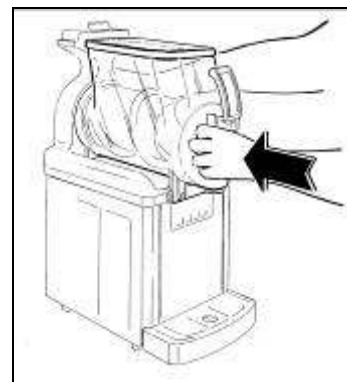

Fig. 25
- Reassemble the bowl by positioning it back into its seat, verifying that it faces in the correct direction and it is held in place by its seal (see fig.25).